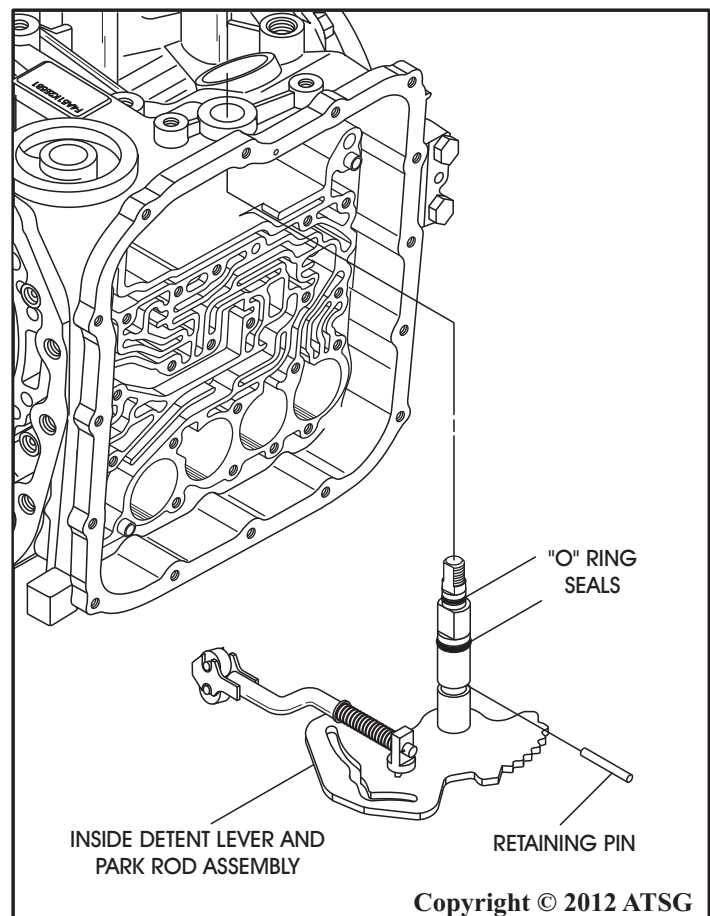

Figure 62
18. With the manual shaft retaining pin removed, rotate back and forth and remove the inside detent lever and parking rod through the inside of the case, as shown in Figure 62.
19. Remove and discard the two "O" ring seals on the manual shaft, as shown in Figure 62.